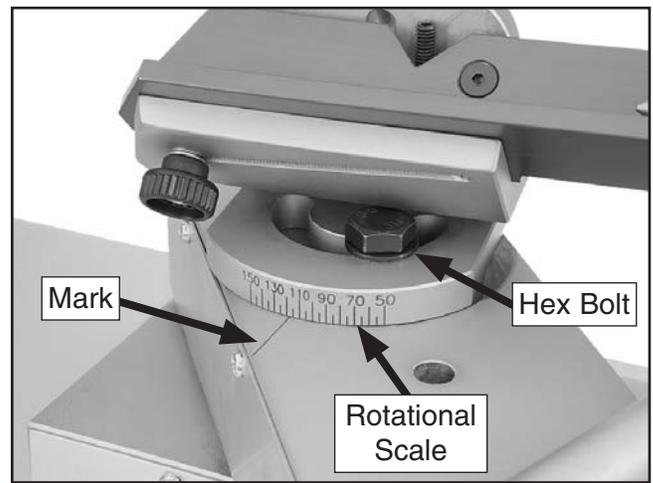
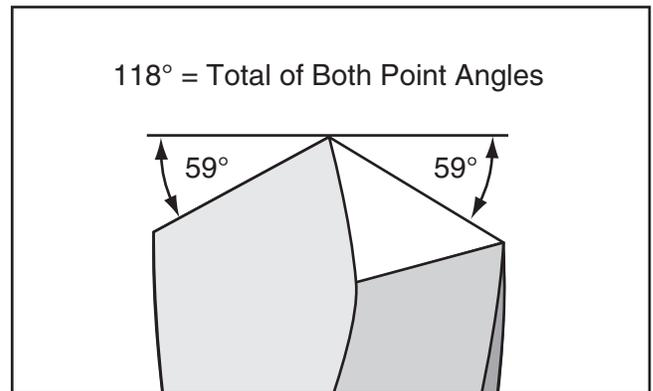

Figure 27. Jig rotational scale set at 118° .
Figure 28. Illustration of calculating total point angle.
11. Rotate the jig assembly until the rotational scale reads the desired angle of cut at the mark, then tighten the hex bolt at the base to secure the setting (see **Figure 27**).
Note: The example shown in **Figure 27** is set for a 118° combined angle of both point angles, as illustrated in **Figure 28**. For general drilling with 2-flute, twisted bits, 118° is acceptable. However, the correct angle may vary, depending upon your drilling requirements.